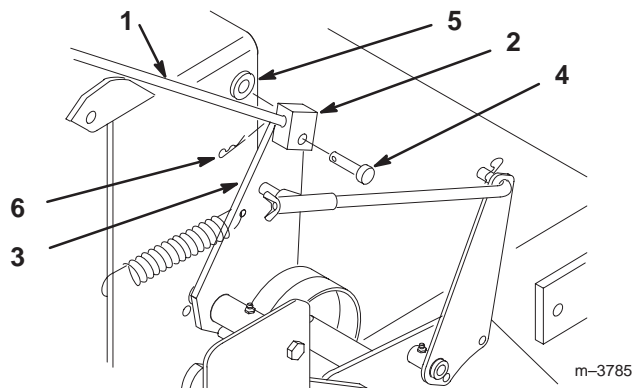

Figure 6
1. Thread trunnions equal distance onto each control rod. For a starting point, thread on approximately 2 in. (51 mm) (Fig. 6).
2. With trunnion rod up, slide clevis pins through rod fittings and mounting holes in idler brackets (from outside) (Fig. 6). Secure with washers (1/4 in.) and hairpin cotters (Fig. 6).